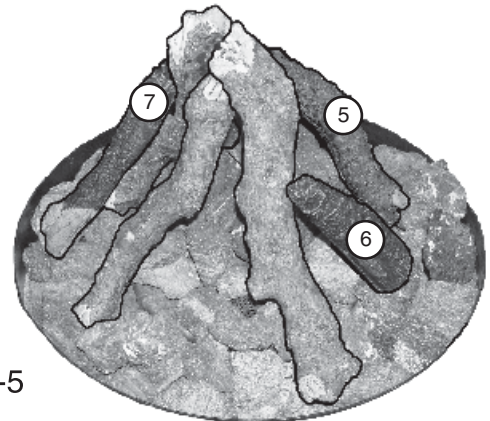

Fig. 18-5
2. Place the other logs similarly as shown (see Fig. 18-5).